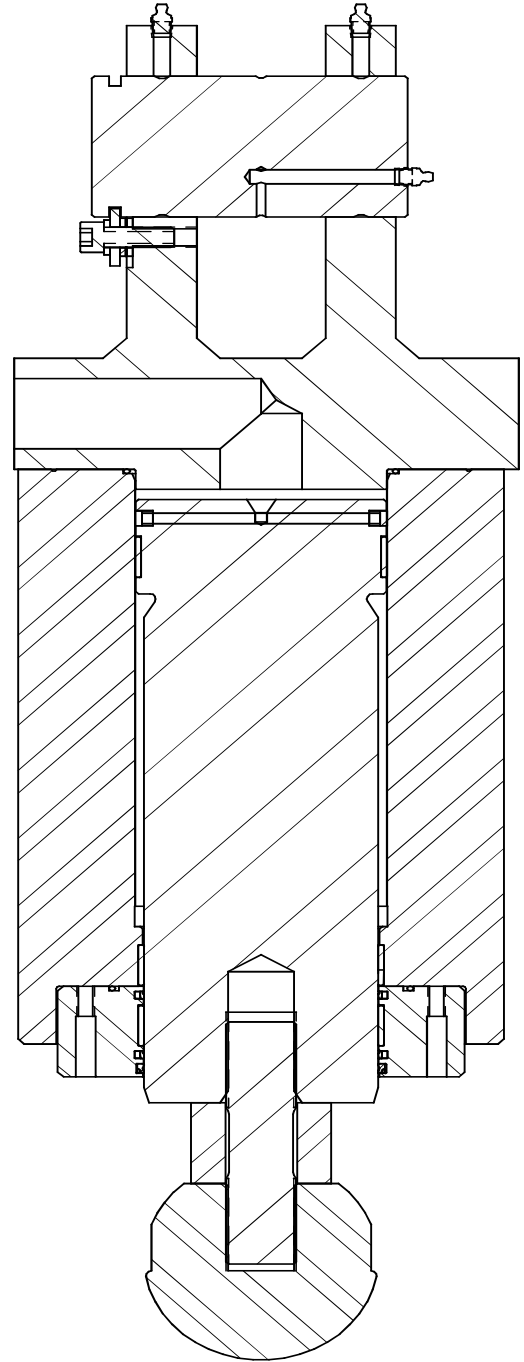

FIGURE 9-6 Hydraulic Cylinder (Internal View)
Each hydraulic cylinder on the press brake has a piston attached to the ram. The ram moves in relation to hydraulic pressure applied to the upper cylinder head or lower cylinder head. The XF cylinders have a simple design with the return line integral to the cylinder body. See Figure 9-6. For information regarding piston rod seal replacement, contact CINCINNATI Technical Service at (513) 367-7100.